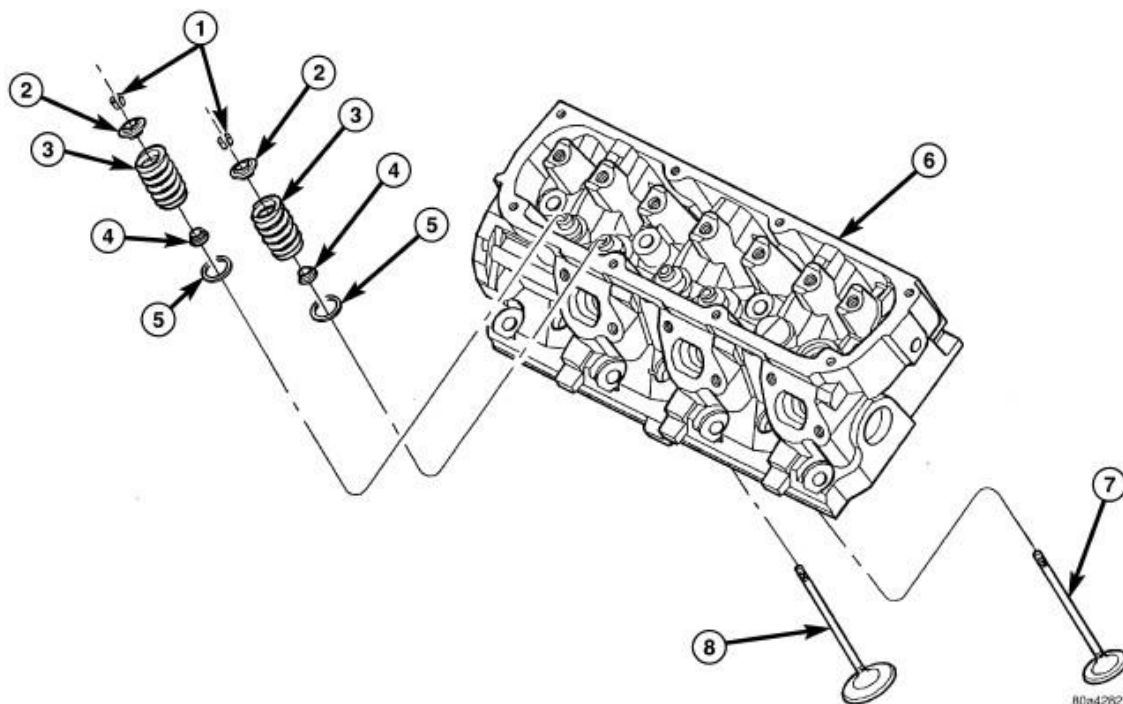

Fig. 93: Cylinder Head & Valve Components
2. Remove valve retaining locks. Refer to **Fig. 93**.